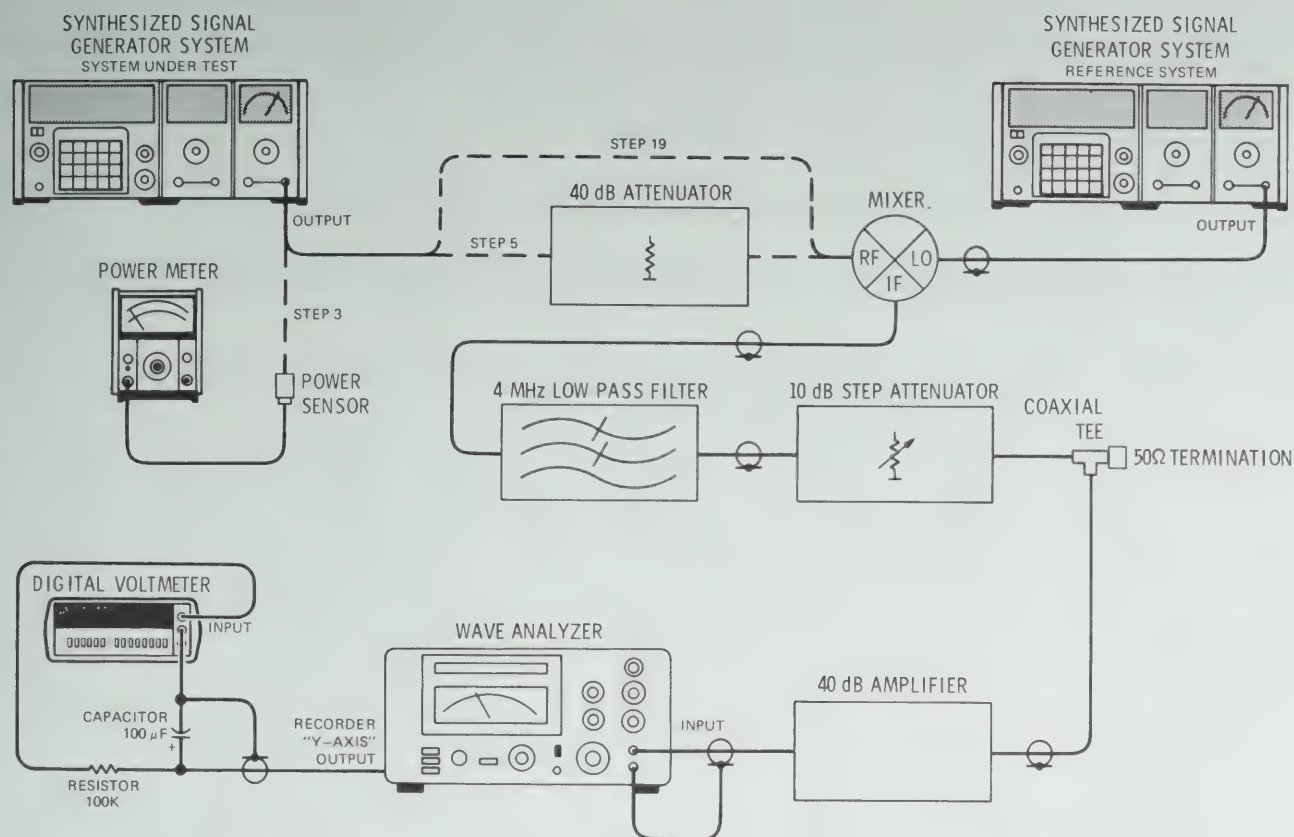

Figure 4-4A. Output Accuracy Test Setup
12. Connect the other equipment which follows the 4 MHz Low Pass Filter as shown in Figure 4-4A.